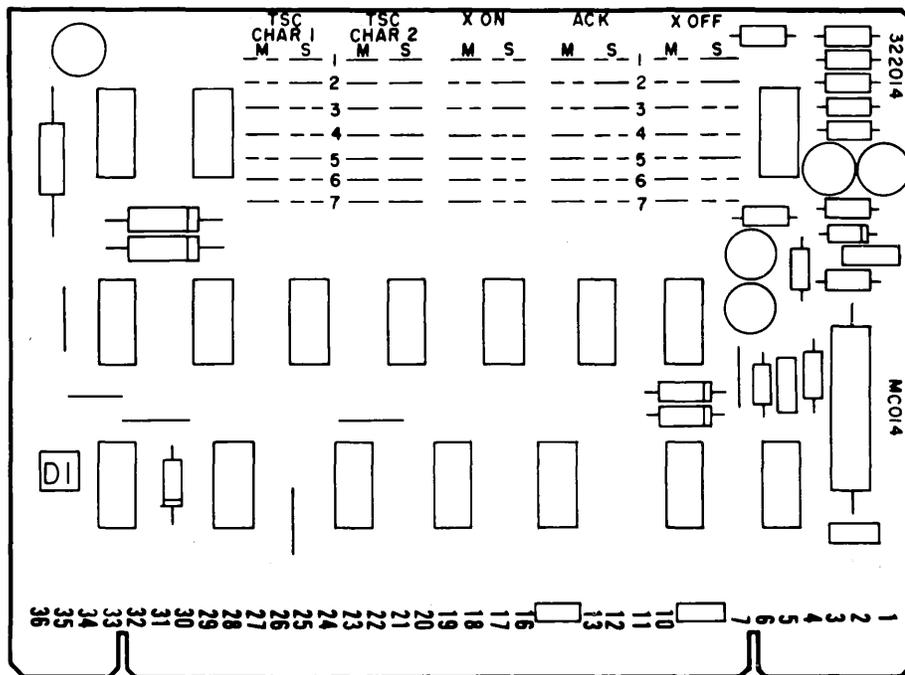

Figure 8 - TSC and Miscellaneous Programming - Card D1
3.08 Each TSC character is programmed by cutting seven of 14 wire straps. These straps are located on card D1 (Figure 8). Follow the directions given in 3.05 and 3.06 for programming TSC CHAR 1 and TSC CHAR 2.
3.09 Three other characters on card D1 (Figure 8) must also be programmed. They are ASCII characters X-ON (DC1), ACK, and X-OFF (DC3). Follow the directions given in 3.05 and 3.06 for programming these three characters.